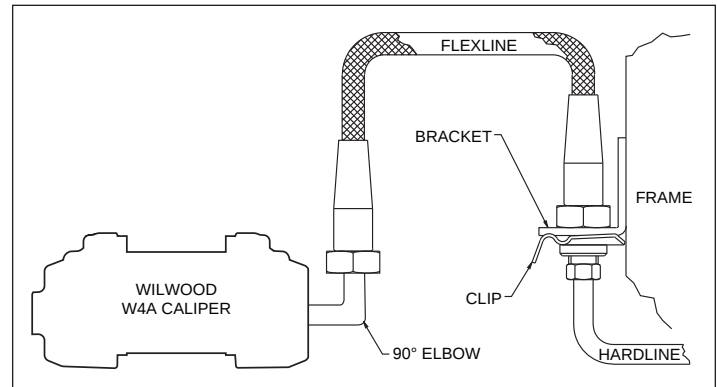

Figure 4. Brake Line Diagram
•**NOTE:** The caliper in this brake kit utilizes a 1/8-27 NPT pipe thread inlet. OEM rubber brake hoses generally cannot be adapted to Wilwood calipers. Install Wilwood's stainless steel braided flexline hose kit, part number 220-8173 for C-5, 220-9101 for C-6 (both sold separately), as shown in Figure 4. **NOTE:** The specified Wilwood hose kits may not work on all Years, Makes, or Models of the vehicle that this brake kit is applicable to, due to possible OEM manufacturing changes during the vehicle's production life. **Carefully route hoses to prevent contact with moving suspension, brake, and wheel components.** It is the installer's responsibility to ensure that all fittings and hoses are the correct size and length, that they are properly sealed, and that they will not be subjected to crimping, strain, or abrasion from vibration or interference with suspension, brake, or wheel components.